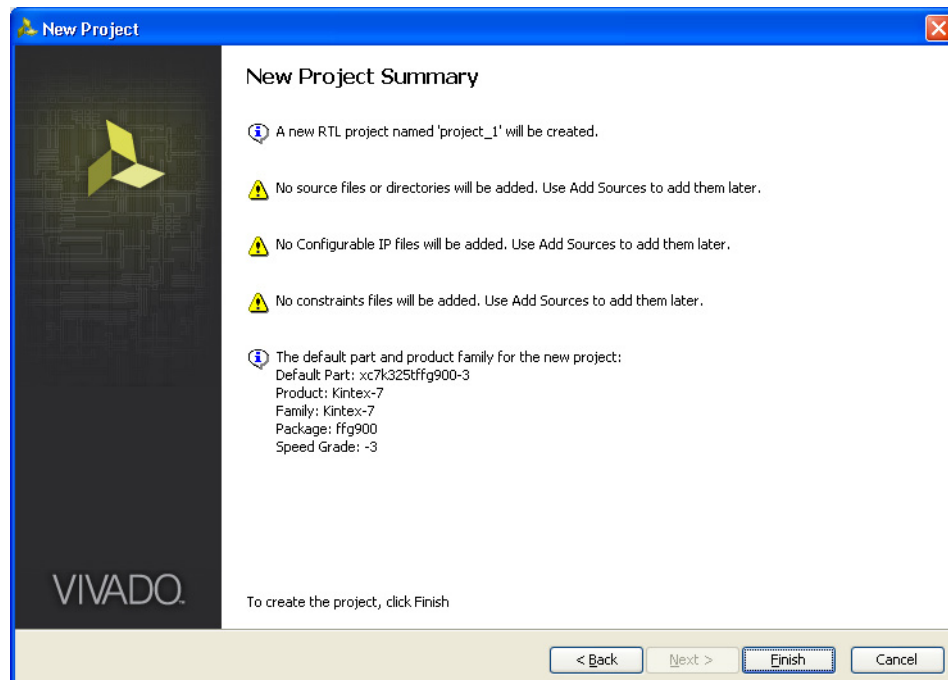

Figure 1-11: New Project Summary
- Click **Next** to open the New Project Summary page (Figure 1-11). This includes the summary of selected project details.